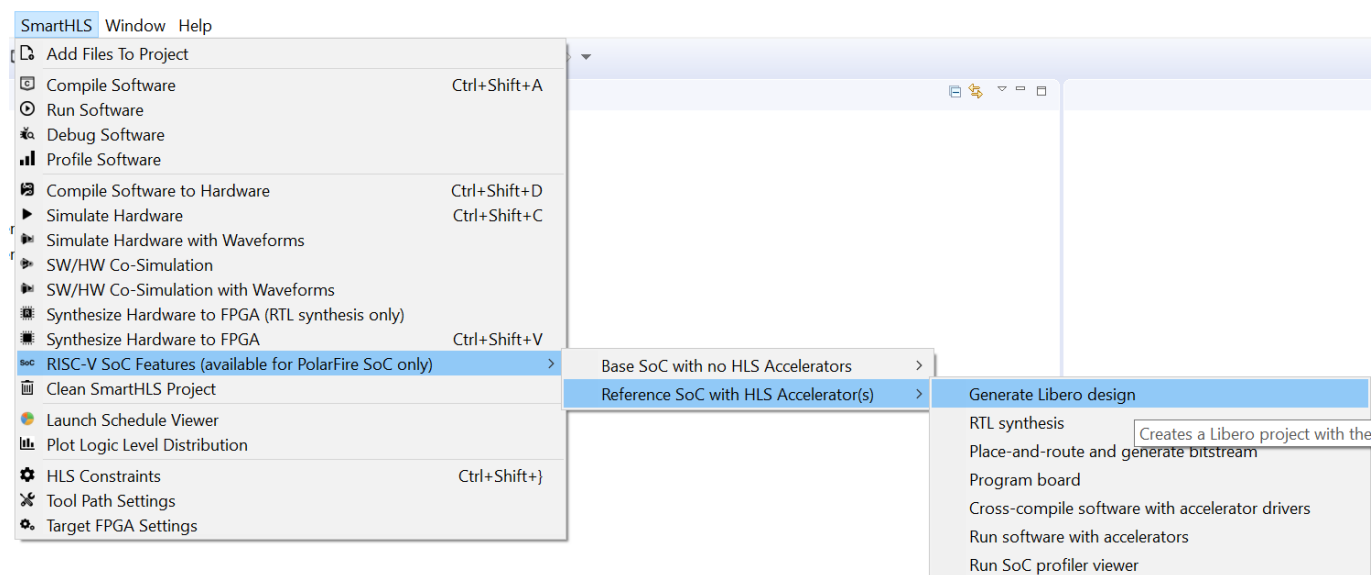

Figure 6-30 “Reference SoC with HLS Accelerator(s) -> Generate Libero Design” Menu
In the SmartHLS IDE, select *SmartHLS -> RISC-V SoC Features (available for PolarFire SoC only) -> Reference SoC with HLS Accelerators(s) -> Generate Libero design*, as seen in Figure 6-30. This command will generate a “Reference SoC” Libero project containing the Icicle kit MSS, the generated vector-add accelerator, and setup a Libero project with the vector-add accelerator connected to the MSS. The Libero project is now ready for synthesis, place-and-route and programming onto the board as you would for a regular Libero project.
*Generate Libero design* (Figure 6-30) will create a Libero project that you can open with Libero in `hls_output/soc/Icicle_SoC.prjx`. The generated SmartDesign hardware system contains the MSS connected via AXI4 to the `vector_add_axi_target_memcpy` accelerator as shown in Figure 6-31. Note that the generated accelerator is the same as the one generated using IP flow in the previous Section 6.2.